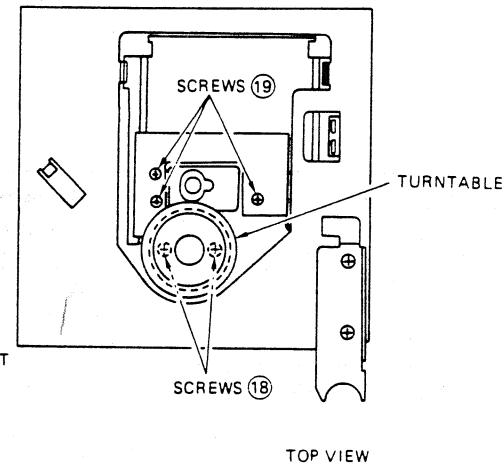

Fig. 13 TOP VIEW
- 2) Remove the turntable from the motor shaft and remove screws ⑯. (Fig. 13)
- 4) Remove 2 screws ⑳ and track moving motor.
- 1) Remove 3 screws ⑲. (Fig. 13)